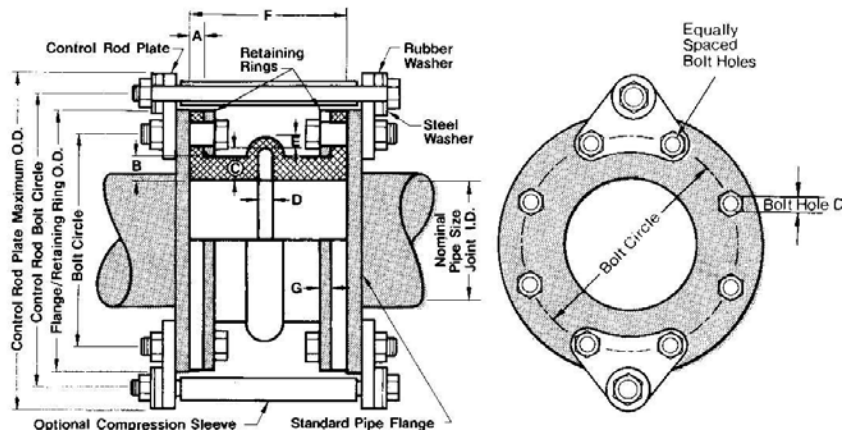

Figure 3
B.1. Definition And Purpose: A control rods unit is a system of two or more control rod (tie rod) assemblies placed across an expansion joint from flange to flange to minimize possible damage to the expansion joint caused by excessive motion of the pipeline. This excessive motion could be caused by the failure of an anchor or some other piece of equipment in the pipeline. Figure 3 shows the proper assembly of an expansion joint with control rods unit details. The control rod assemblies are set at the maximum allowable expansion and/or contraction of the joint and will absorb the static pressure thrust developed at the expansion joint.